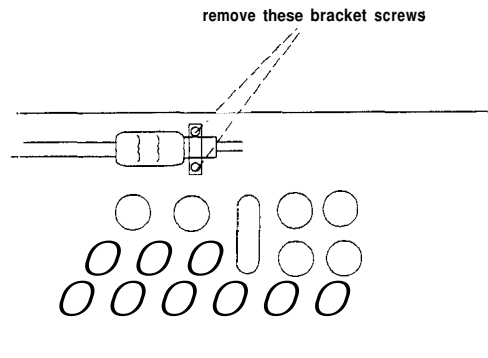

Figure 5-25. Line switch plunger unit securing bracket
3. Remove the line switch securing bracket in order to completely remove the line switch assembly, see Figure 5-25.